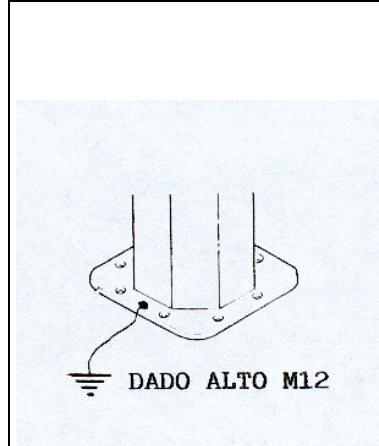

fig.47
- **Have earthing connected, to the structure of the crane, corresponding to the handling points for this purpose (fig.47).**